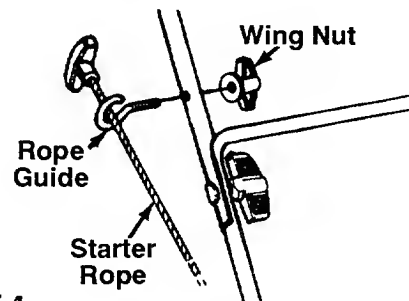

FIGURE 4.
- With the spark plug wire disconnected and grounded, hold the blade control handle against the upper handle, and pull the starter rope out of the engine. Hold the rope guide as shown so the opening in the rope guide is toward the front of mower. Slip the rope guide around the starter rope and into the right side of upper handle using the hole shown. Secure using the wing nut. See figure 4.